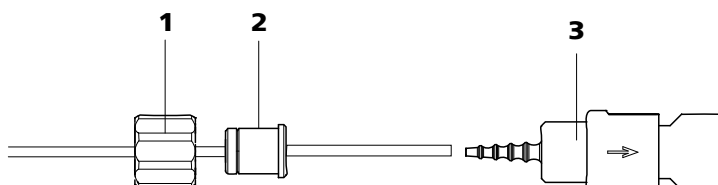

Figure 29 Install pump tubing connection with filter
- **Case A:** a 6.2744.180 pump tubing connection **with filter** (see figure 29, page 53) or